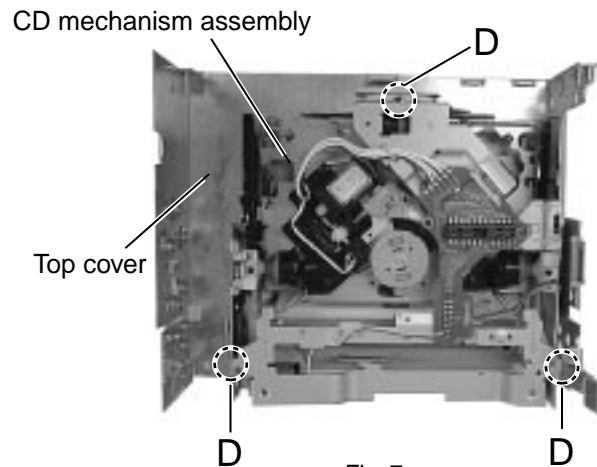

Fig. 7
(See Fig.7)**
- The CD mechanism assembly (Refer to Fig.7)